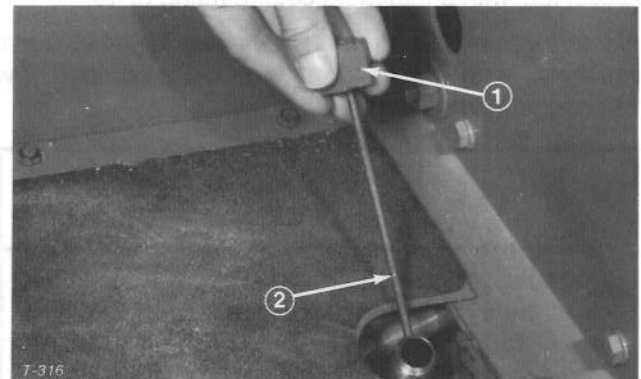

Figure 21
2. Unscrew dipstick cap (Fig. 21) from the filler neck and wipe it with a clean rag. Screw dipstick cap fingertight onto filler neck. Unscrew the dipstick and check level of oil. If level is not within 1/2 inch (13 mm) from the groove in the dipstick (Fig. 21), add enough oil to raise level to groove mark. DO NOT OVERFILL by more than 1/2 inch (13 mm) above groove.